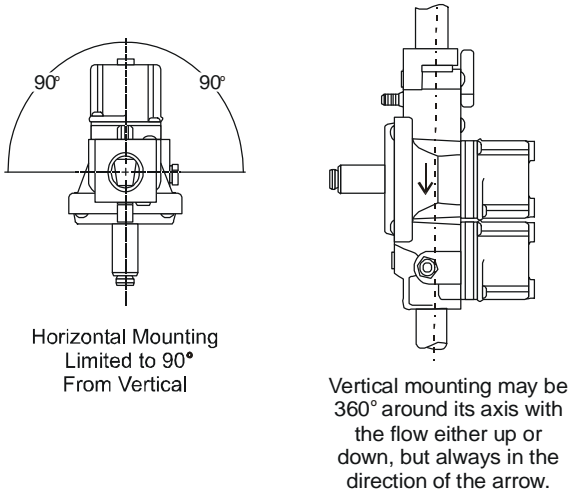

Figure 1: G196 Mounting Positions
6. Mount the G196 on a horizontal manifold with the magnetic operator pointed up (vertical) or in a position not exceeding 90° from vertical. The valve may also be mounted on a vertical manifold in any position around its axis (Figure 1).